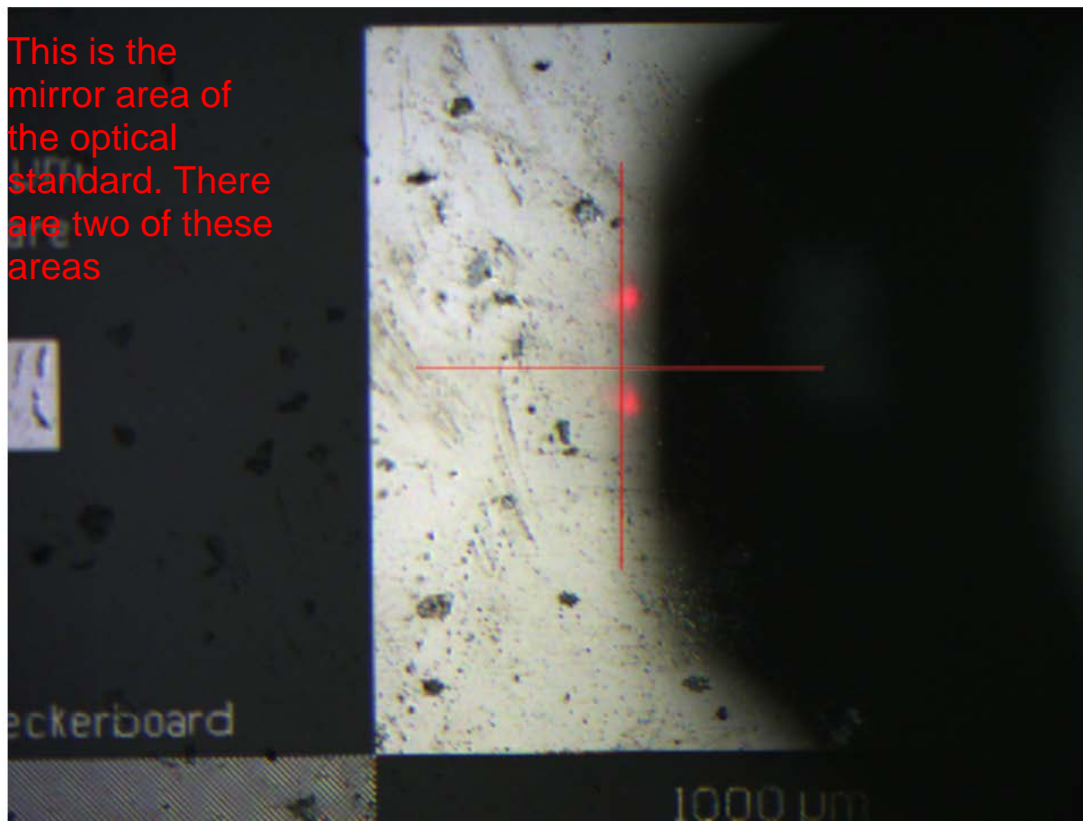

Figure 3
6. move to middle of the mirror area of the optical standard (Alignment station), then focus. see figure 3 above.